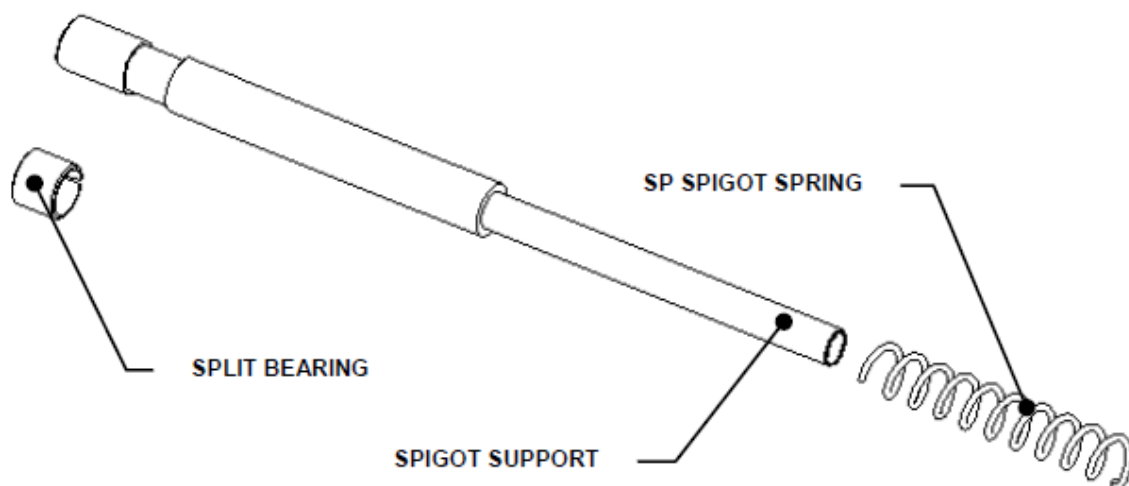

Figure U-37: The Spigot Slider
2. Take a Split Bearing and clip it onto a Spigot Slider. Slide an SP Spigot Spring (42001270) on the Spigot Slider (Figure U-37).